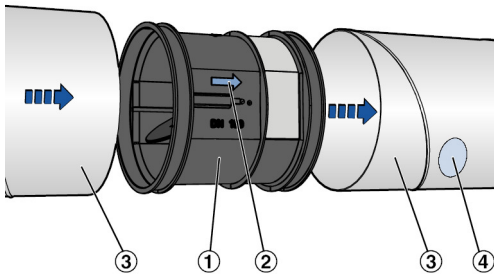

Fig. 7: Installing VFL
2. ▶ Insert VFL (Fig. 7/1) into the duct (Fig. 7/3).
The arrow indicates the correct airflow direction. (Fig. 7/2) .
4. ▶ Use the provided stickers to indicate the position of the controllers. You can write on the stickers and affix them to the duct for people to see (Fig. 7/4)